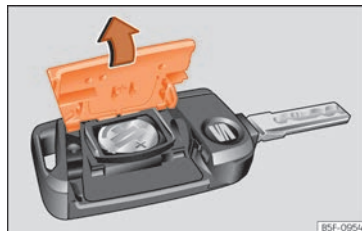

Fig. 84 Vehicle key: opening the battery compartment cover.
- Remove the cover from the back of the vehicle key »» Fig. 84 in the direction of the arrow »» ❶.
- Fit the cover as shown »» Fig. 84, pressing it onto the vehicle key casing in the opposite direction to that shown by the arrow until it clicks into place.